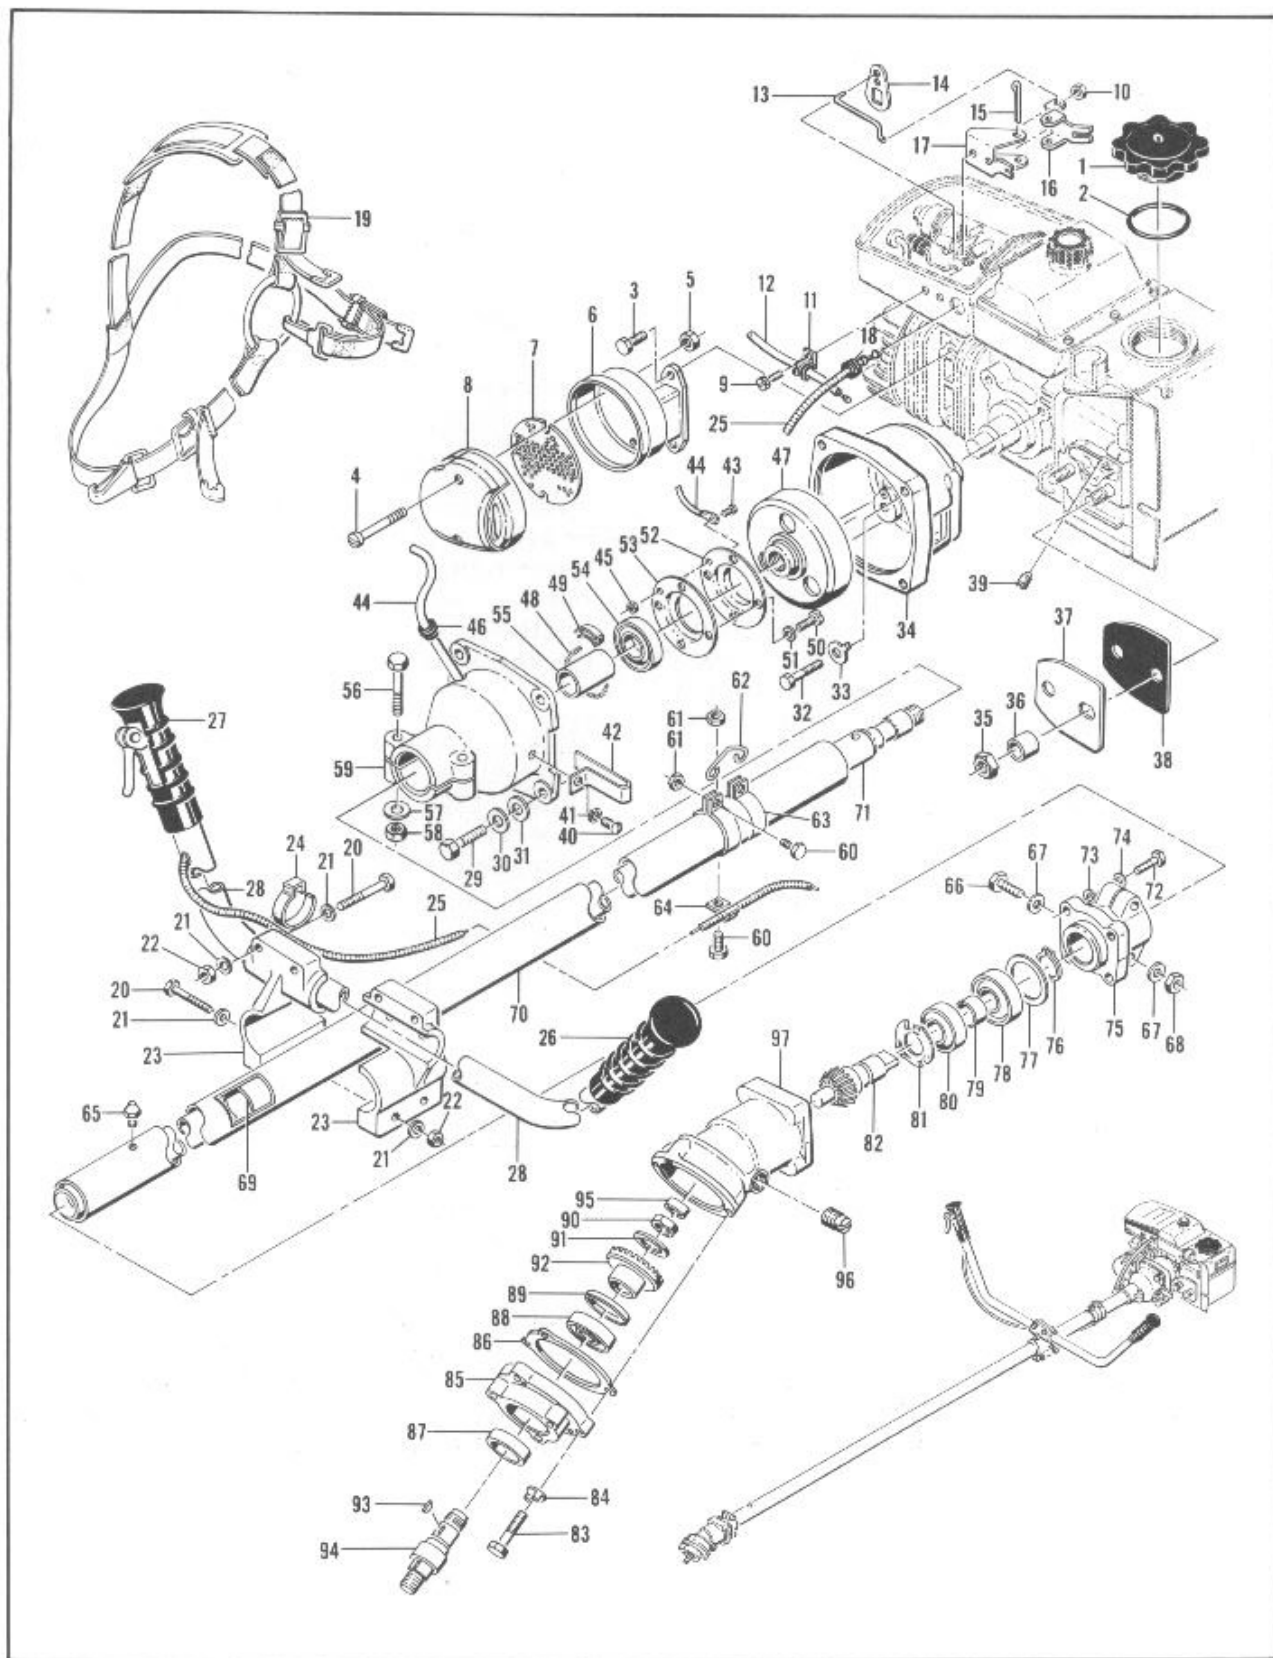

Figure 18. Exploded View 57600 Drive Unit and Accessory Kits
3. Remove the fuel vent orifice assembly from the bar mounting pad and install the Fuel Tank Vent Plug (P/N 57595). See Figure 18. Install the Cover Plate Gasket (P/N 57437), Cover Plate (P/N 50485), and the Spacers (P/N 50484) on the bar mounting studs and secure with two hex nuts (P/N 103729) (see Figure 18).
over the left shoulder; the stabilizing strap passes around the left side from the back and snaps onto the ring in front. The snap clamp with the roller, hooks on the harness hanger on the drive shaft housing (Figure 18).